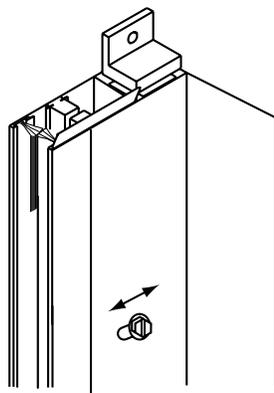

Figure 13
- ⑫ After again checking operation, re-position side channels, if necessary, to properly adjoin the head box. Note that channels that are “drilled for jamb” with the adjustable mounting angles attached are designed to help keep the channels plumb and parallel in non-squared openings. The slots in the mounting angles with the side channel attachment screw allow for an adjustment of up to 3/8". This feature allows the channel to be correctly positioned while allowing the mounting angles to be fastened tight against the jamb (see Fig. 13). For outside mount side channels, there is no surrounding jamb, so proper positioning is easier. Install all fasteners in side channels, being careful to keep channels square to the head box and parallel to each other. After checking fabric alignment and channel positioning, return shade to full open position and re-insert the fabric into the side channels. Be sure that the slat bar at the bottom of the fabric is